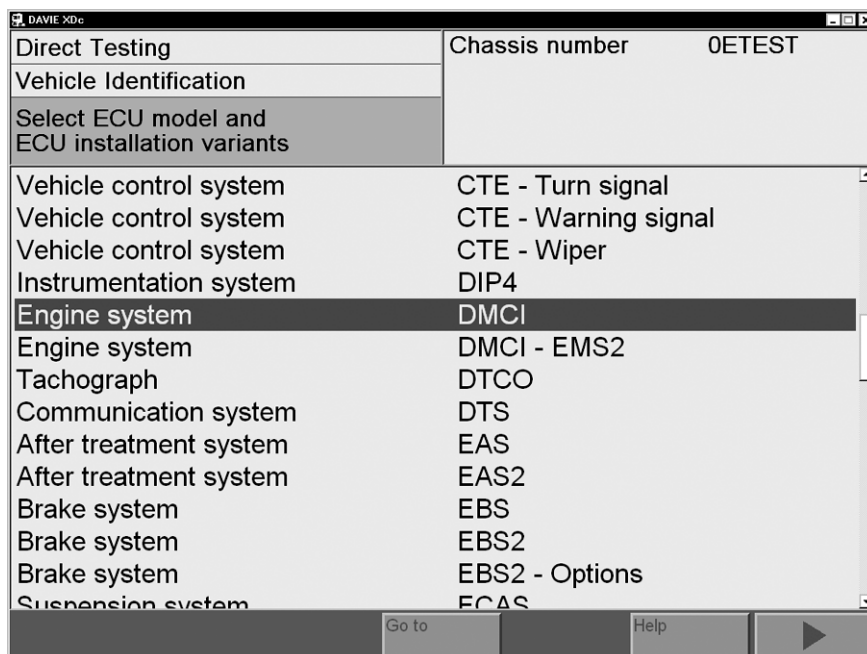

Figure 5-4 Manual system selection
4. Press the "Back / <" button to switch to the system selection screen and select a system. Like step 1, figure 5-4.